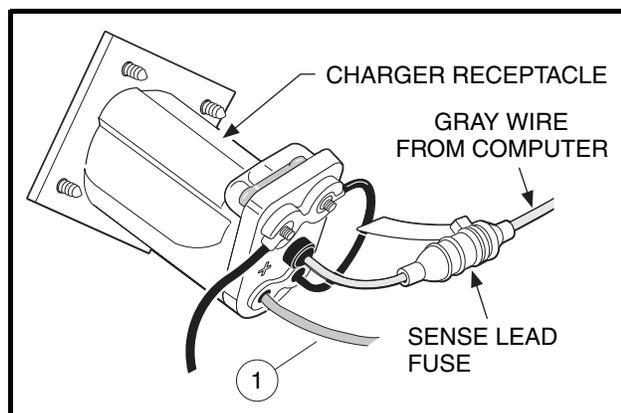

Figure 6-11 Receptacle Wire Connections (all vehicles except Precedent)
- 3.2. Make sure the two nuts that secure the two 10-gauge black wires to the receptacle fuse assembly are tight (Figure 6-11, Page 6-16).